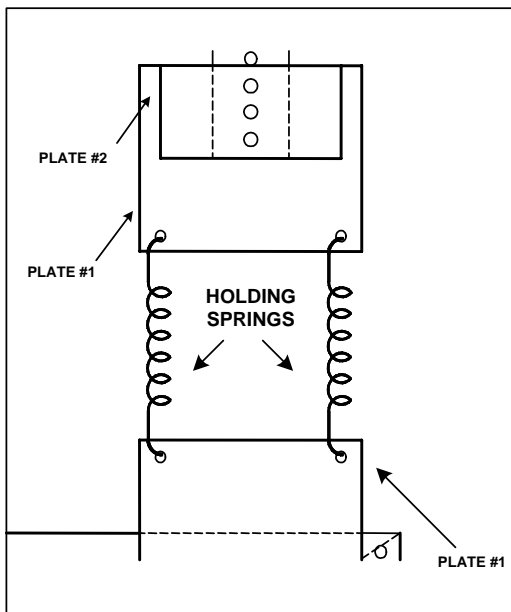

Figure 1-28
- Pull the bottom support bracket plate #1 down and secure it to the bottom support bracket. Verify the springs are approx. 1.5 times their original lengths, move the bottom support bracket if required [See Figure 1-28.]
**Car Top Box:** The standard *Meridia* Car Top Box contains the terminals for the termination of the traveling cable wires as well as the CPT, COP, CC1, Door Board, Car top inspection station, Work light and Car position indicators. [See Wiring Diagrams for details.] This box must be placed in a convenient location for piping and wiring as well as conforming to any and all codes governing car top clearances. (usually mounted on the front side of car top next to cross head). [See Figure 1-28.]